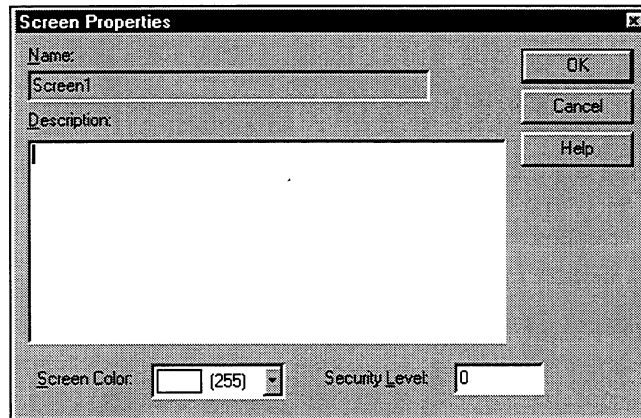

Figure 6-7. Screen Properties Dialog Box
3. Select the Screen command. The Screen Properties dialog box opens, as shown in Figure 6-7.